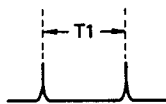

Figure 55.
2. Monitoring TP6 with an oscilloscope (internal trigger), adjust R7778 to obtain $T1 = 4.4$ ms as shown in Figure 55.
2. Monitoring TP6 with an oscilloscope (internal trigger), adjust R7770 to obtain $T1 = 4.6$ ms as shown in Figure 55.